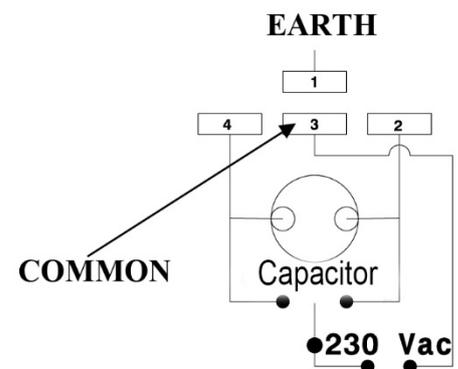

Fig.1
- 2) Fix the pillar support as shown in **(Fig.1 Page5)** shortening or extending the support according to the dimensions A and B shown in the **(Table1 Page 4)**. The support should be fixed at a height where the gate has a sufficiently rigid surface to fix the gate support, bearing in mind that the gate support will be fixed **15 mm lower** than the pillar support. **(Fig.1 Page 10)**.